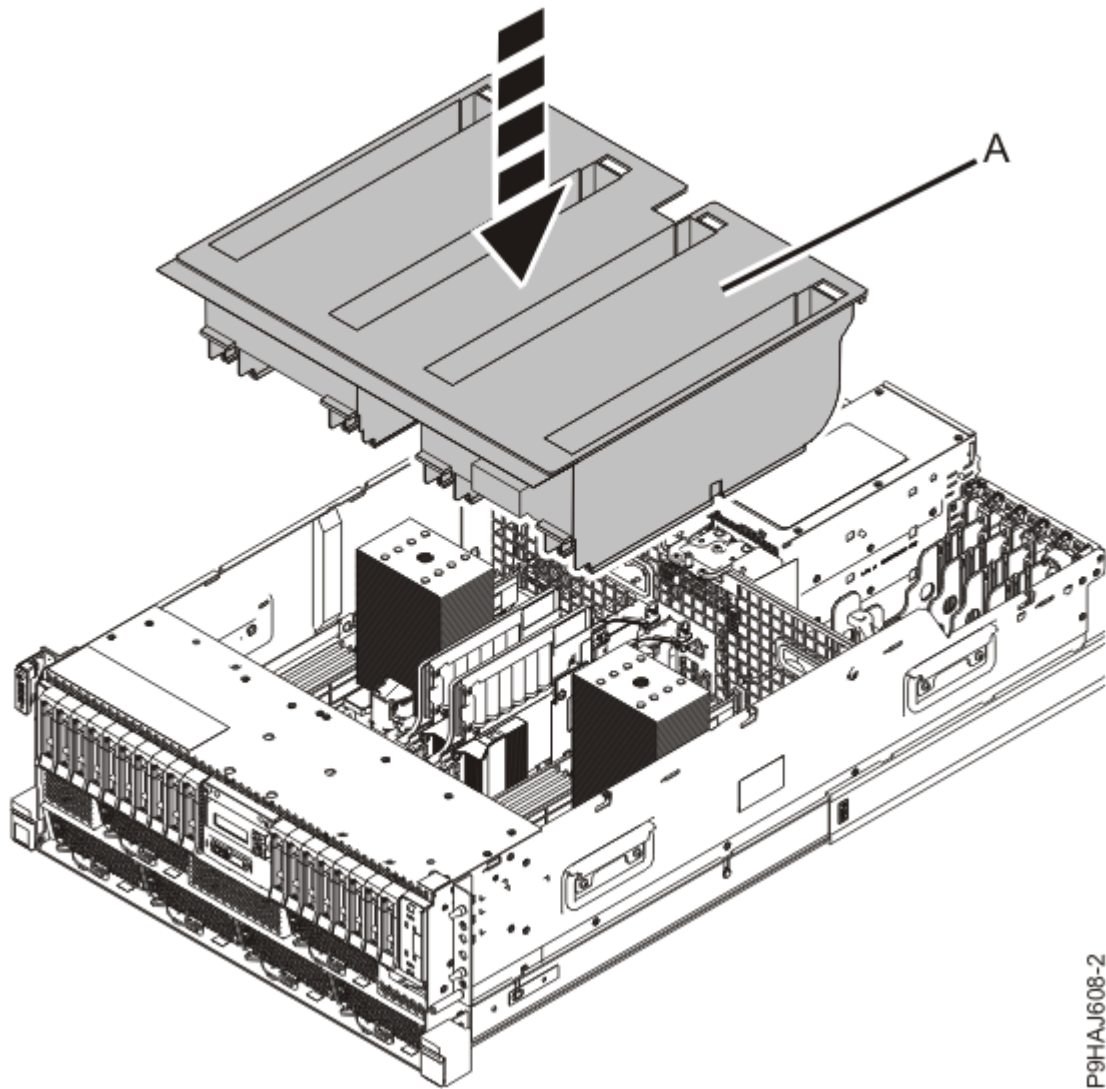

*Figure 127. Inserting the control panel display*
9. Insert the control panel display by pushing it into the housing as shown in Figure 127 on page 132. It clicks into place.